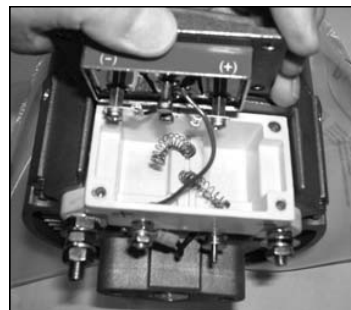

Fig 2
- 2) Lift regulator from alternator. (Fig 2).